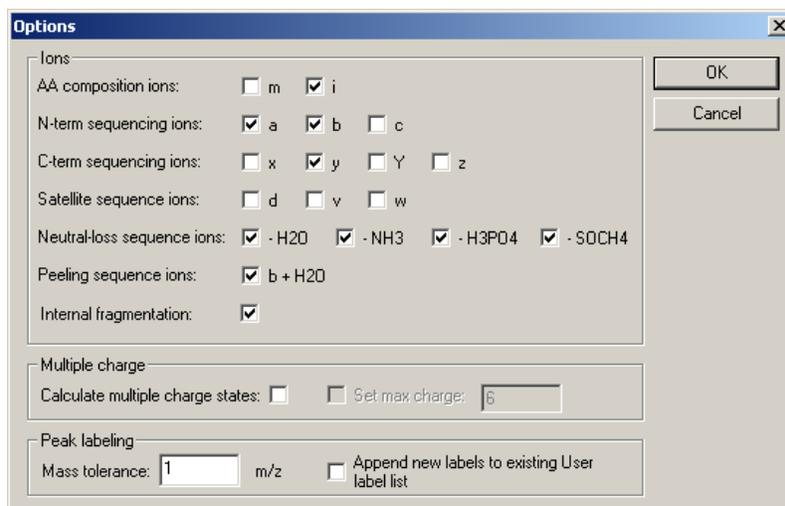

Figure 6: Options for Ion Fragment Calculator dialog box
- 6.3 Select **Options** to specify which fragment ions to generate, and the tolerances for peak labeling (*Figure 6*).